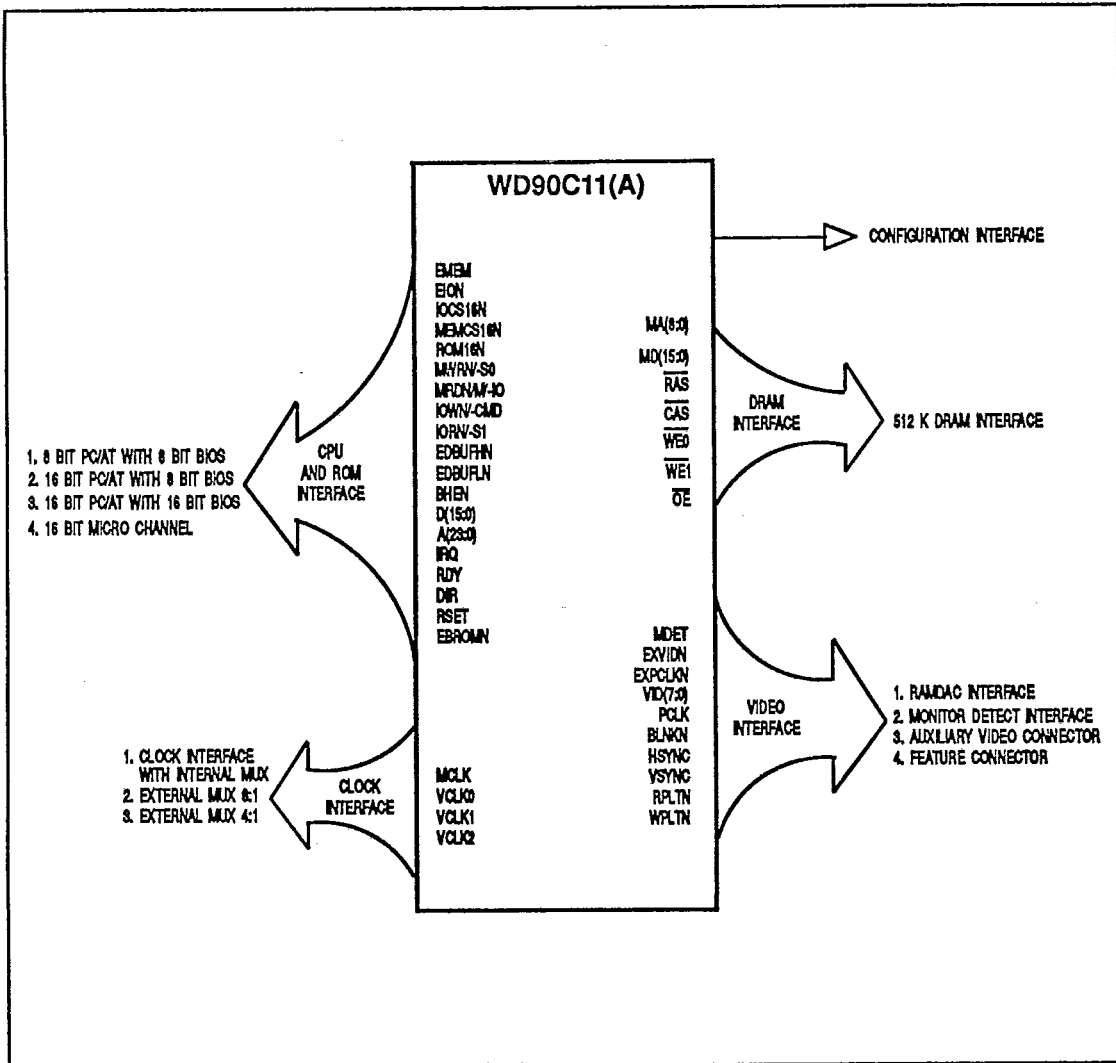

FIGURE A-1. WD90C11(A) INTERFACES
should supplement the information provided in this section. The Figures A-1 through A-9 are shown along with their brief description on the subsequent pages.
Figure A-1 highlights the various WD90C11(A) Processor, memory, and I/O interfaces.